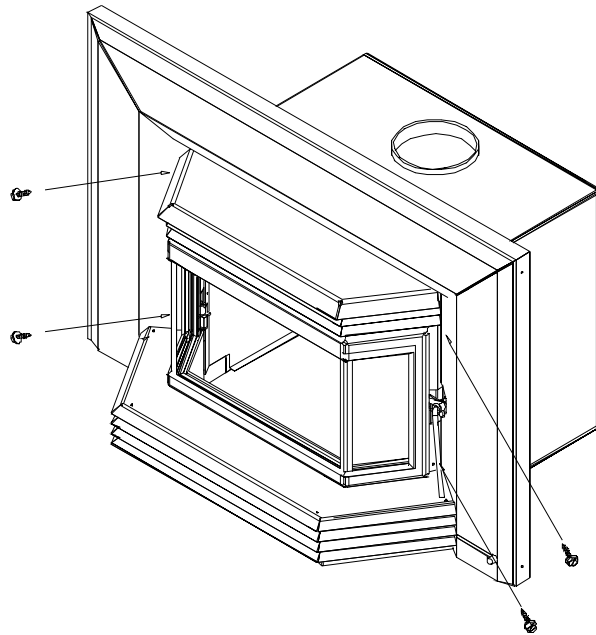

Figure 2.7
8. Fan is already attached to the unit at the factory with two tie straps to reattach fan to unit see (Figure 2.7)
10. Install faceplate (Figure 2.7) with four HF47 (#10 x 3/8" sheet metal) screws supplied, ensuring the 1/4" rod on the air control plate extension protrudes through the slot in the RH faceplate & moves freely horizontally.